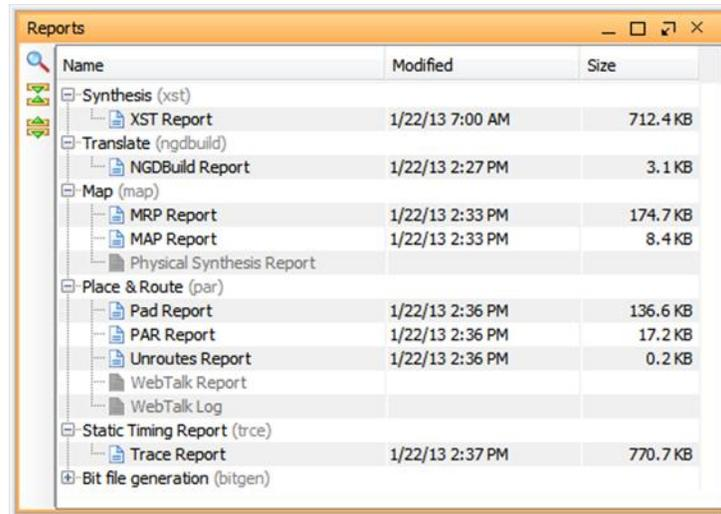

Figure 25: Implementation Reports
- If the Reports view is not opened, select **Window > Reports** to display the Reports view, as shown in FIGURE 25.